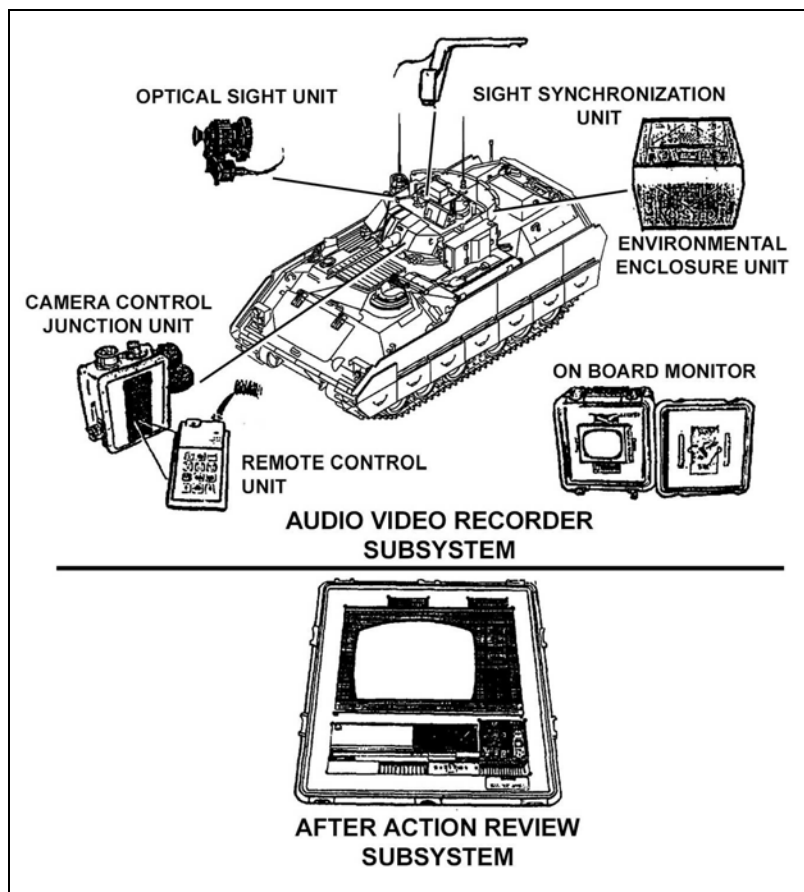

Figure 4-1. Thru-sight video.
a. **Thru-Sight Video.** The vehicle-appended TSV (Figure 4-1, page 4-4) provides a visible and audible record of gunnery or tactical-engagement exercises. Trainers use it to evaluate and critique vehicle gunnery training-engagement sequences. TSV is transparent to the crew. Its onboard monitor can play back training sequences immediately. The TSV system has the following components:
(1) After-action review (AAR) subsystem. This subsystem lets evaluators play back, zoom in, and freeze individual engagements. It also lets crews review their performance on the AAR subsystem. The AAR subsystem is usually located in the AAR area.
- (2) Audio-video recorder.
- (3) Environmental enclosure unit.
- (4) Camera-control junction unit.
- (5) Optical unit.
- (6) Cable assembly.